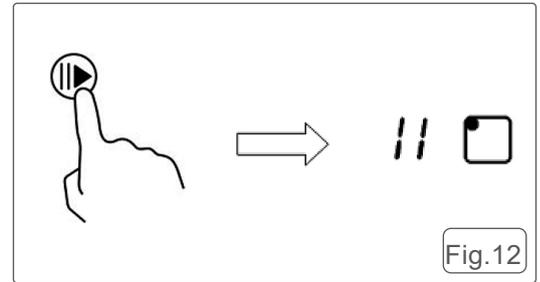

Fig.12
- 1. Touch the Pause control (⏸). All heating zones will stop working, and all zone indicators will display "||", indicating that the hob is paused. Fig.12